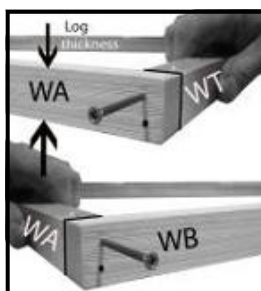

Fig A1
4. Lay out the parts **WA** and **WB** and **WT** as in the inner frame assembly drawing. The narrowest (25mm) edge to the work bench and the side the size is the same as the log thickness as shown in fig A1 . Part **WT** must be inside parts **WA** and part **WB** underneath the two **WA** parts (Fig A1) .
5. **WA** and part **WB** underneath the two **WA** parts (Fig A1) .
6. Pre drill 2 3mm holes at one end of the **WA** only and at both ends of the **WB** parts (see drawing)and screw together at each corner,10mm in from the edge (ensuring each corner is flush) with 2x50mm screw (fig A1).